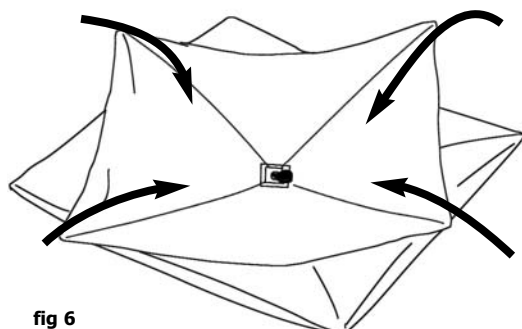

fig 6
Step 6: Gather all corners together (fig 6).